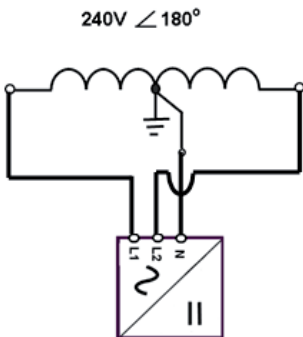

Figure 16: 240V/120V Split Phase AC Grid
5. With two people, lift up the inverter and place it carefully onto the mounting bracket. Install two locking nuts as shown in the figure 16 to secure the device.